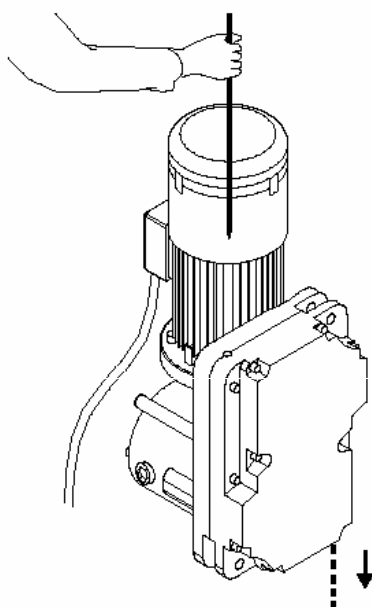

Рис. 3
(См.рис. 3)
Attached figure 3: Hoist (A) for ZLP800